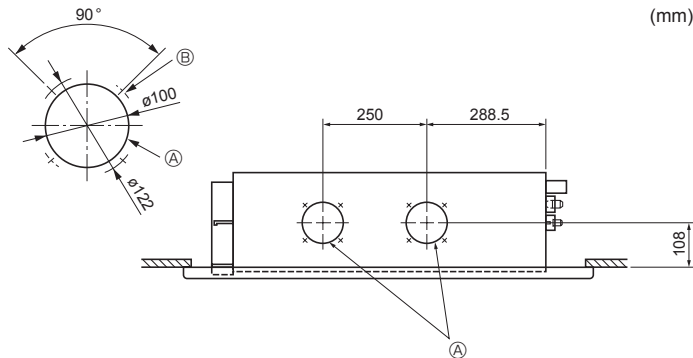

Fig. 2-10
2.5. Fresh air intake hole (Fig. 2-10)